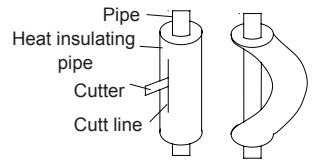

Fig.13
- (4). When bending the pipe, do not bend it as is. The pipe will be collapsed. In this case, cut the heat insulating pipe with a sharp cutter as shown in Fig.13, and bend it after exposing the pipe. After bending the pipe as you want, be sure to put the heat insulating pipe back on the pipe, and secure it with tape.